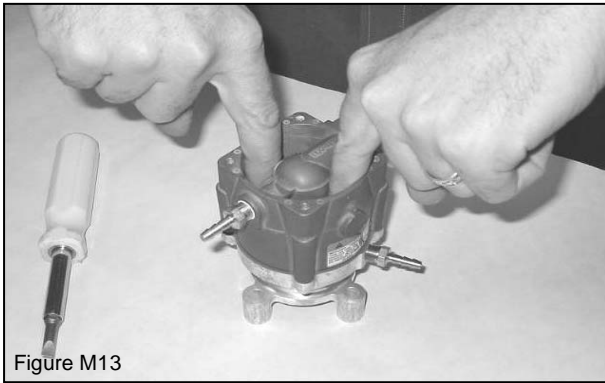

Figure M13
10. Check for binding of the air valve assembly by pressing down with two fingers on opposite sides of the air valve assembly (Figure M13). The air valve assembly should move freely without binding and have full travel. If the air valve is binding, loosen the four adapter retaining screws, re-check the air valve for binding and re-tighten the adapter retaining screws.